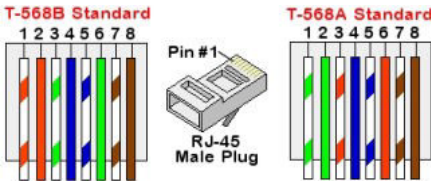

Figure 24: Standard cable wiring
- c. Insert the eight wires into an RJ45 connector, as described in *Figure 24*.
7. For the switch/router side, use a pre-crimped cable or use a crimper to prepare an RJ45 communication connector: Insert the eight wires into the RJ45 connector in the same order as above (*Figure 24*).